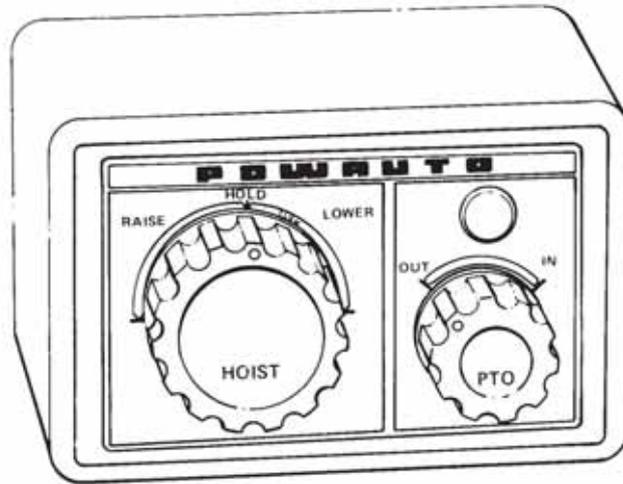

Figure 3 Hoist and PTO Controls
- (1) The control box (Figure 3) for both the PTO and hoist is located on the cab floor between the seats. With the PTO engaged the hydraulic pump supplies hydraulic fluid under pressure to the hoist control valve, which is controlled by the hoist control knob.